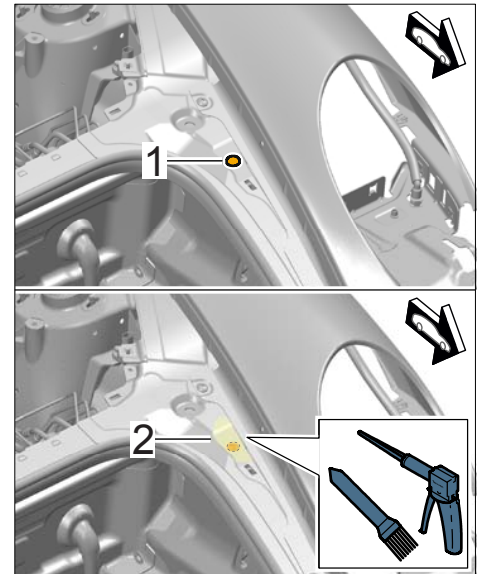

Figure 32
- 3.1 Mask rectangular cut-out using a round self-adhesive sticker from the adhesive film, Part No. **000.043.303.38** (⇒ *Figure 32 -1-*).
- 3.2 Apply body sealant over the masked cut-out in the area marked in yellow ⇒ *Figure 32 -2-* and spread it out evenly with a brush.